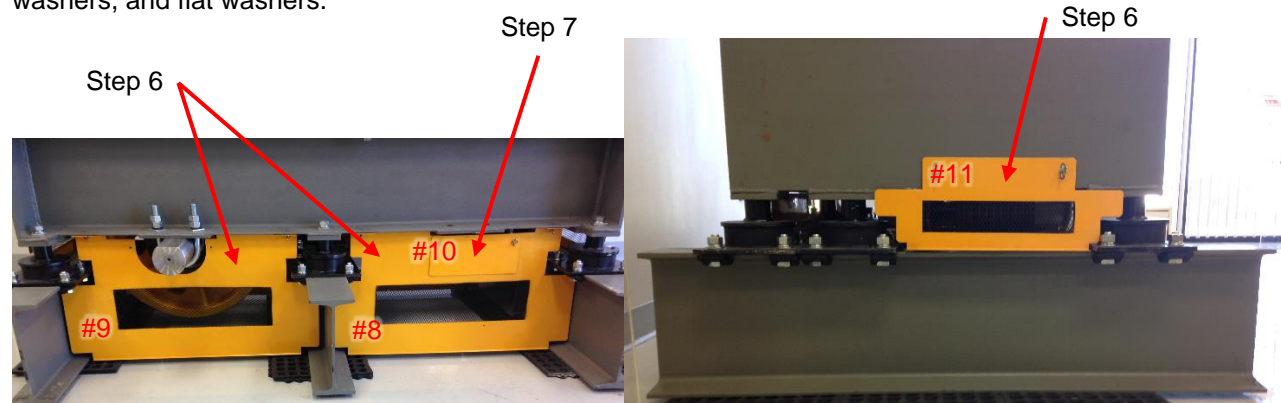

Figure 7 – Install Deflector Guards
**Step 6:** Install Deflector Sheave Guard Right [#8], Deflector Sheave Guard Left [#9], (2) Bedplate Back Guards [#12] (not shown) and (2) Bedplate Side Guards [#11] to the bedplate using (2) each wing bolts, lock washers, and flat washers. See Figure 7.
**Step 7:** Install Deflector Hole Cover [#10] to the appropriate Deflector Sheave Guard using (2) wing bolts, lock washers, and flat washers.